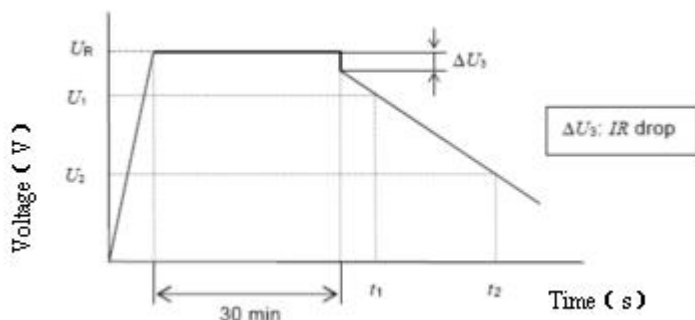

Figure 2 – Voltage characteristic between capacitor terminals
- e) Unless otherwise specified in the individual standards, measure the time t1 and t2 where the voltage between capacitor terminals at the time of discharge reduces from  $U_1$  to  $U_2$  as shown in Figure 2, and calculate the capacitance value by the following formula: